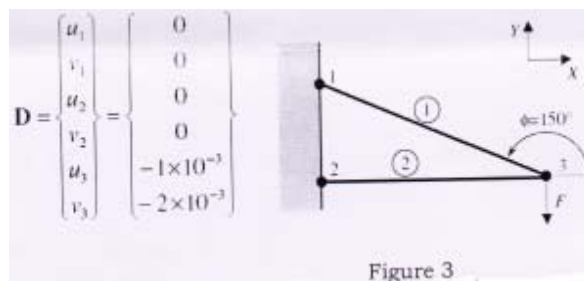

Figure 3
- Q10)** a) Given the truss structure shown in figure 3, calculate the stress and strain in truss element 1 if: $A_1 = 0.0004 \text{ m}^2$, $E_1 = 200 \times 10^9 \text{ Pa}$, $L_1 = 2 \text{ m}$ [8]